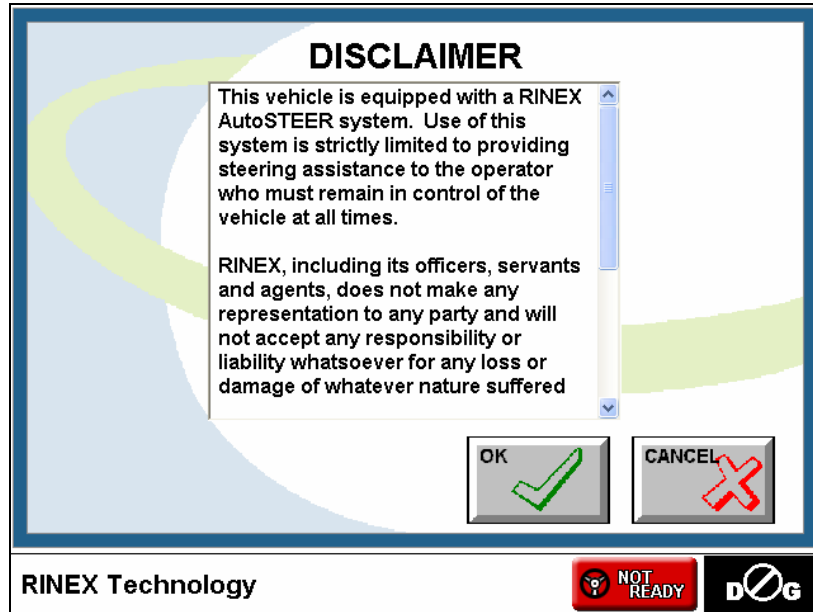

Figure 9-3: AutoSTEER Disclaimer Window
- 2) When AutoSTEER is turned ON, the Disclaimer window will be displayed as shown in Figure 9-3.